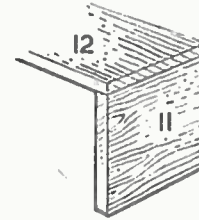

Fig. 4
The main shop has now been completed, and attention can be turned to making the accessories. First make the counter from the two pieces (11) and one piece (12), which are glued and pinned together as shown in Fig. 4. It is then ready to stand in position. The three pieces (13) are next cut and these, when assembled, represent a butcher's chopping block, or, in the event of some other sort of shop having been decided upon, an auxiliary counter. The pieces are assembled in the same way as the large counter (Fig. 4).